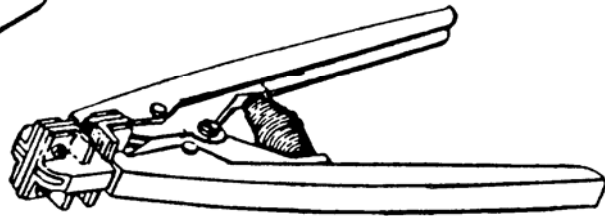

Figure A-2. Soldering Tips
(1) Soldering tips are available in many shapes and sizes, however, the most common tips used for general soldering are the chisel, pyramid, and screwdriver (Figure A-2). The job to be done will determine the size and shape of the tip used.